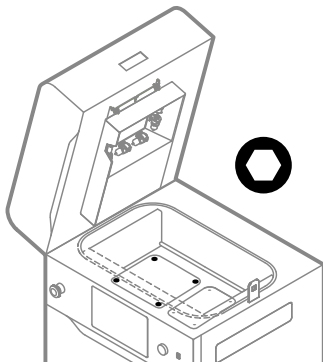

Fig. 13.42 Unscrew the Feed Bed screws.
15. Using a 2.5 [mm] allen key, unscrew and remove four screws securing the Feed Bed cover (fig. 13.42).